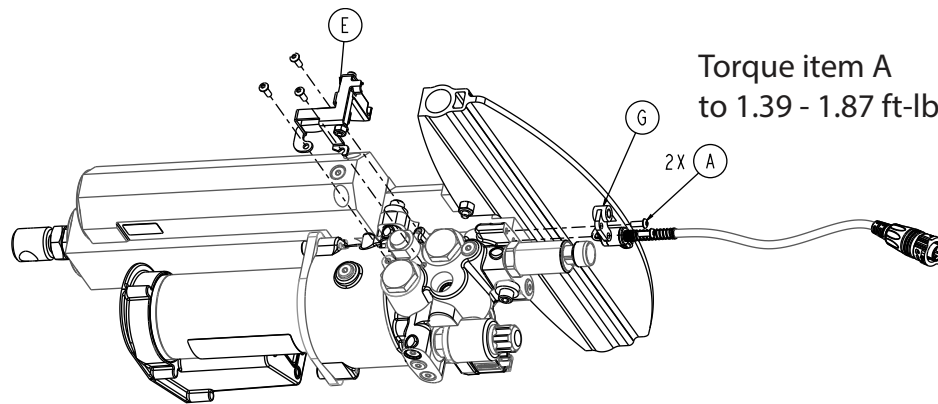

Figure 42 – Actuator lift assembly components
6. Using a T10 Torx driver, remove the two button head cap screws (A) that secure the manual release cable bracket (G) to the X-frame cross brace (Figure 42). Save the screws and bracket.
7. Remove the manual release cable from the manual release bracket assembly (E) (Figure 42).